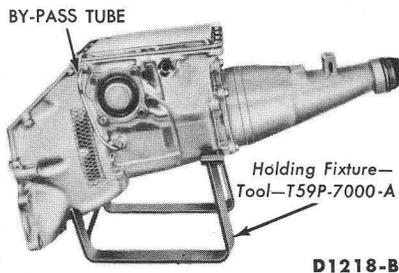

FIG. 1—Transmission Mounted in Overhaul Fixture
converter and place the assembly in the transmission holder shown in Fig. 1.
5. Remove the 6 bolts that attach the control valve body to the case (Fig. 1, Part 6-4). Remove the control valve body.